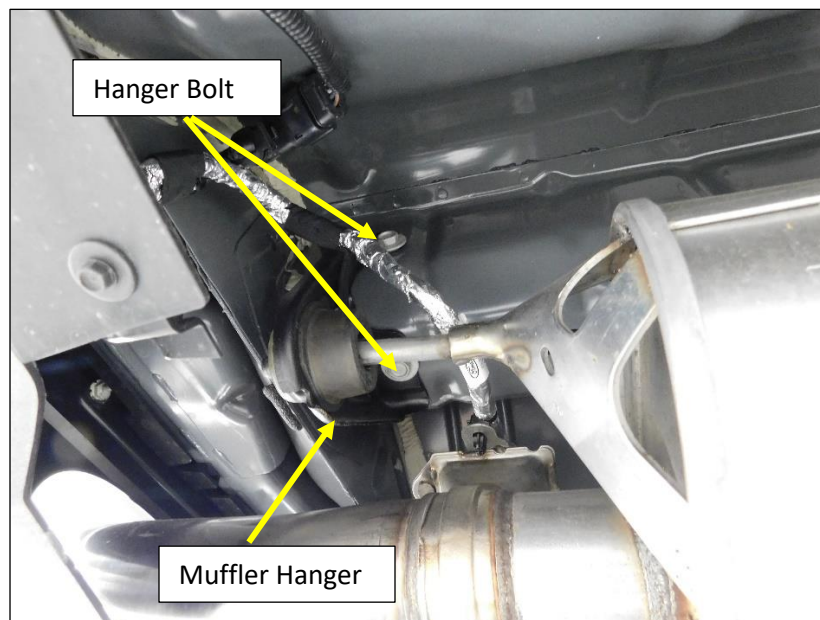

Figure 5
6. Remove the (x2) bolts from the muffler hanger mounts directly over the mufflers (**Fig. 5**).